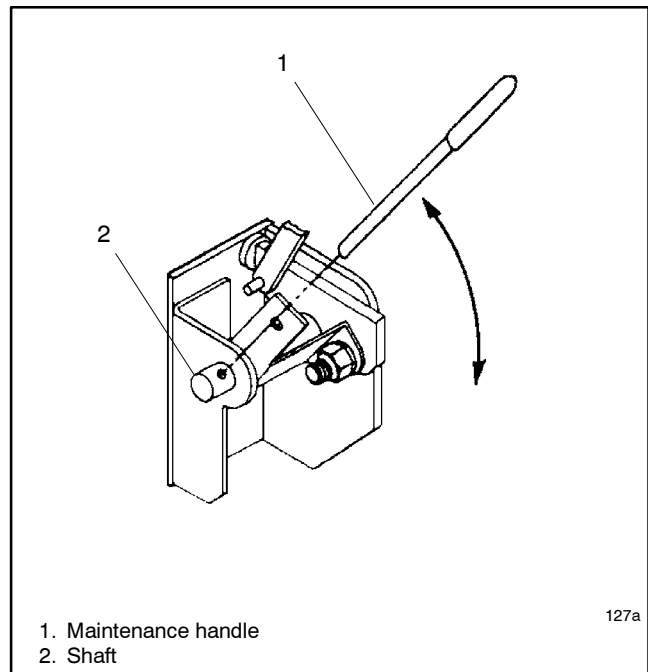

Figure 6-2 Manual Operation, 225-400 Amp Switches
3. Insert the maintenance handle into the hole in the shaft on the left side of the operator. See Figure 6-2.